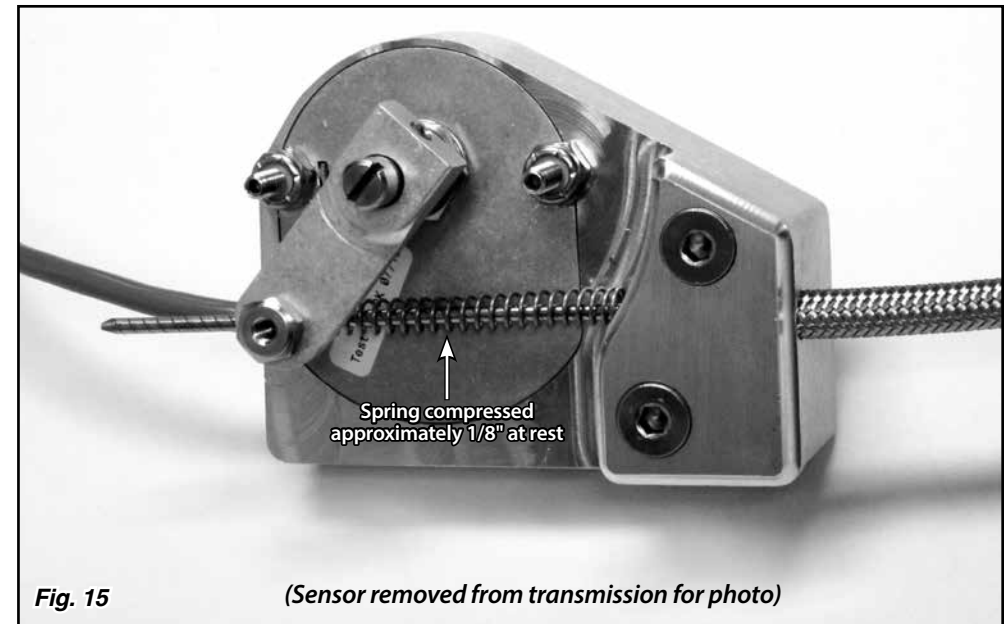

Fig. 15
Step 14: Make sure the transmission is in Park. **Push the sensor arm up against the spring, so that the spring is compressed approximately 1/8" at rest in Park. Fig. 15** Tighten the set screw in the index cable stop on the sensor arm using a 1/16" Allen wrench. Trim the excess inner wire, leaving about 1" protruding.